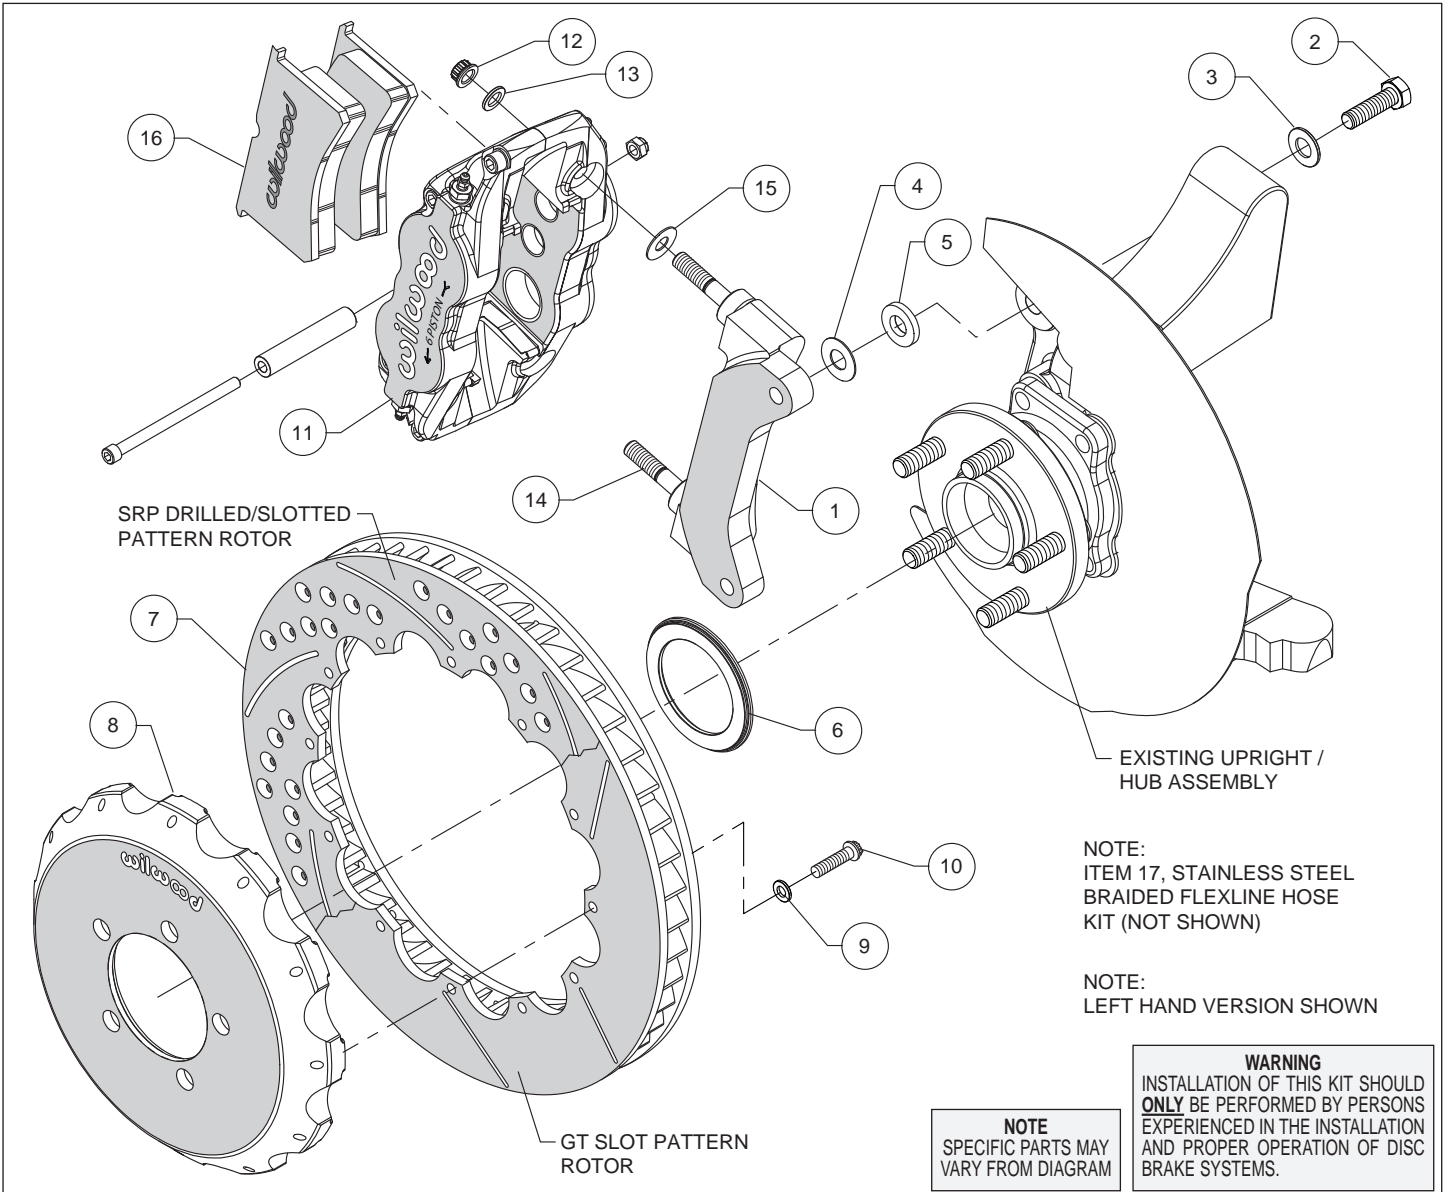
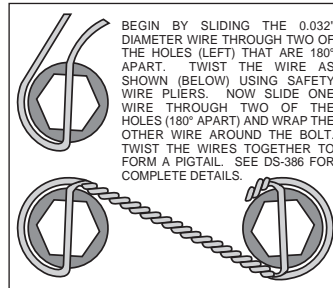

Figure 1. Typical Installation Configuration
Figure 3. Safety Wire Diagram
**Assembly Instructions** (numbers in parenthesis refer to the parts list and Figure 1 on the preceding pages):
- The caliper mount bracket (1) should initially be installed with clean, dry threads on the mounting bolts. Orient the bracket as shown in Figure 1 and Photo 1, and install using washers (3) and bolts (2). Initially place one shim (4) and spacer (5) on each bolt between the bracket and upright, Figure 1. Temporarily tighten the mounting bolts. **NOTE: The bracket must fit squarely against the mount bosses on the upright.** Inspect for interference from casting irregularities, machining ridges, burrs, etc. Later, after the caliper alignment has been checked, the mount bolts will be secured using red *Loctite*® 271.
- Orient the rotor (7) and the hat (8) as shown in Figure 1 and Photo 2. Attach rotor to hat using bolts (10) and washers (9). Using an alternating sequence, apply red *Loctite*® 271 to the threads, and torque to 155 **in-lbs**. For an added measure of security, the bolts may be safety wired using standard 0.032 inch diameter stainless steel safety wire as shown in Figure 3.
- Slide the rotor registration adapter (6) onto the axle register on the axle hub with the smaller O.D. facing outward, Photo 3. Slide the hat/rotor assembly onto the axle hub. **NOTE: The hat must fit flush against the axle hub flange or excessive rotor run out may result.** Install three lug nuts (finger tight) to keep the hat/rotor assembly in place while continuing with the installation.
- NOTE: This kit contains distinct right and left hand calipers that must be mounted in a specific direction, as described below.** Lubricate the caliper mounting studs (14) with lightweight oil. Initially place one .035" thick shim (15) on each stud as shown in Figure 1 and Photo 4. Mount the caliper (11) onto the bracket (1) using lock nuts (12) and washers (13), Figure 1. Ensure that the caliper is mounted so that the largest pistons are at the rotor exit end of the caliper, in relation to the direction of rotor rotation. Temporarily tighten the lock nuts and view the rotor through the top opening of the caliper. The rotor should be centered in the caliper, Photo 5. If not, adjust by adding or subtracting shims (4) between the bracket and the upright. Always use the same amount of shims on each of the two mounting bolts. Once the caliper alignment is correct, remove the bracket mounting bolts (2) one at a time, apply red *Loctite*® 271 to the threads, and torque to 60 ft-lb.